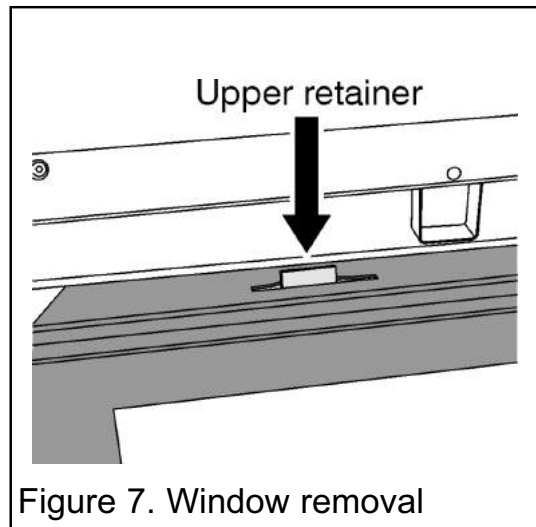

Figure 7. Window removal
2. With both clamps released, gently pull the base of the window panel forward. Hold the window panel base and lift upward until clear of the two upper window retainers (See figure 7).